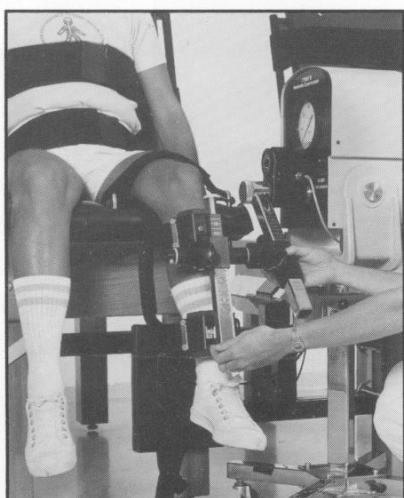

Figure 20
8. Loosen the large black locking knob (C) on the fulcrum assembly (D) by turning the knob CCW. Pull open both Velcro straps. Loosen the large black locking knob (C₁) on the pivot tube assembly (I) by turning the knob CCW.
9. Holding the accessory upright, slip the pivot shaft assembly (I) onto the input adapter of the dynamometer or actuator. See Fig. 20. Do not tighten the two black locking knobs.